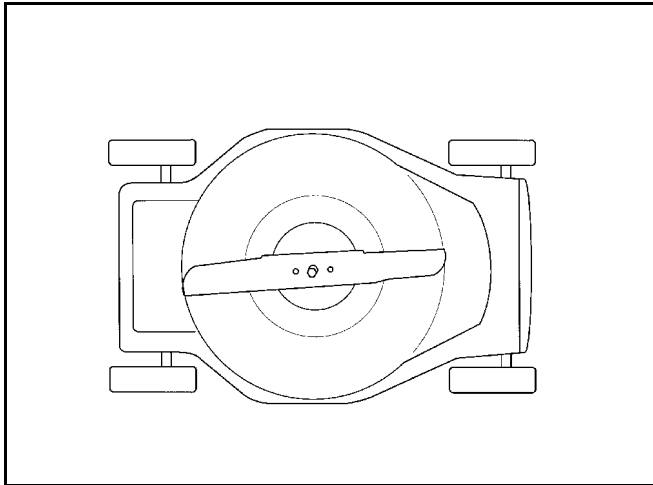

Figure 29
2. Tip mower on its side (Figure 29).